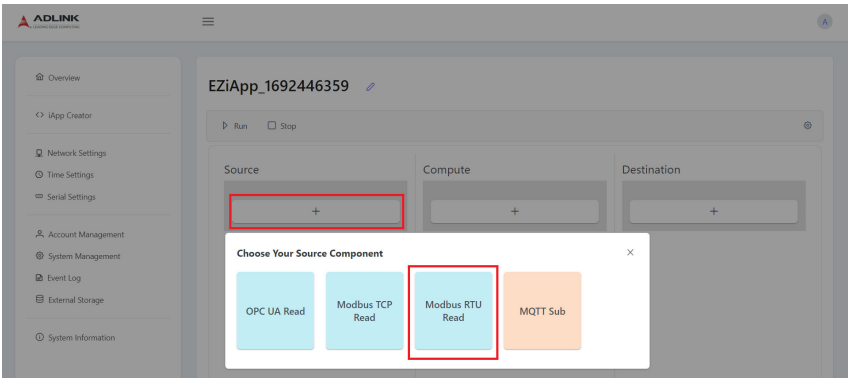
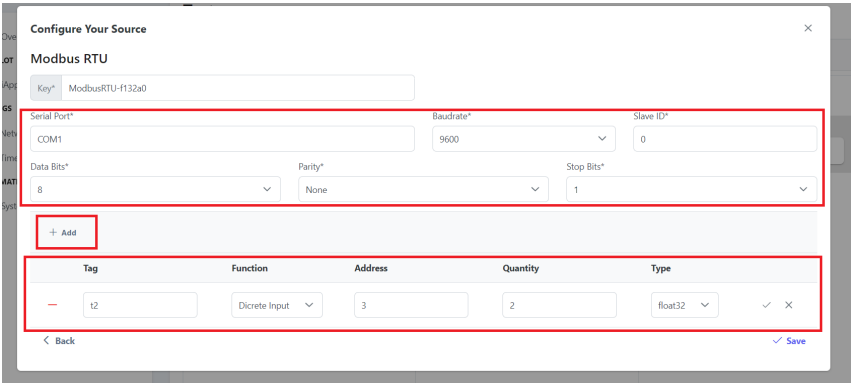

Figure 3-7: Create Modbus RTU
Figure 3-8: Configure Modbus RTU
2. **Modbus RTU Master:** Use EGiFlow iApp's setup to create and configure the Modbus RTU Master functionality. Determine the serial parameters required for communication, such as baud rate, parity, data bits, and stop bits. EGiFlow iApp provides an interface to define the data registers to be read from the Modbus slave. (See Figure 3-7 and Figure 3-8)
1. **Modbus RTU Master:** Use EGiFlow iApp's setup to create and configure the Modbus RTU Master functionality. Determine the serial parameters required for communication, such as baud rate, parity, data bits, and stop bits. EGiFlow iApp provides an interface to define the data registers to be read from the Modbus slave. (See Figure 3-7 and Figure 3-8)